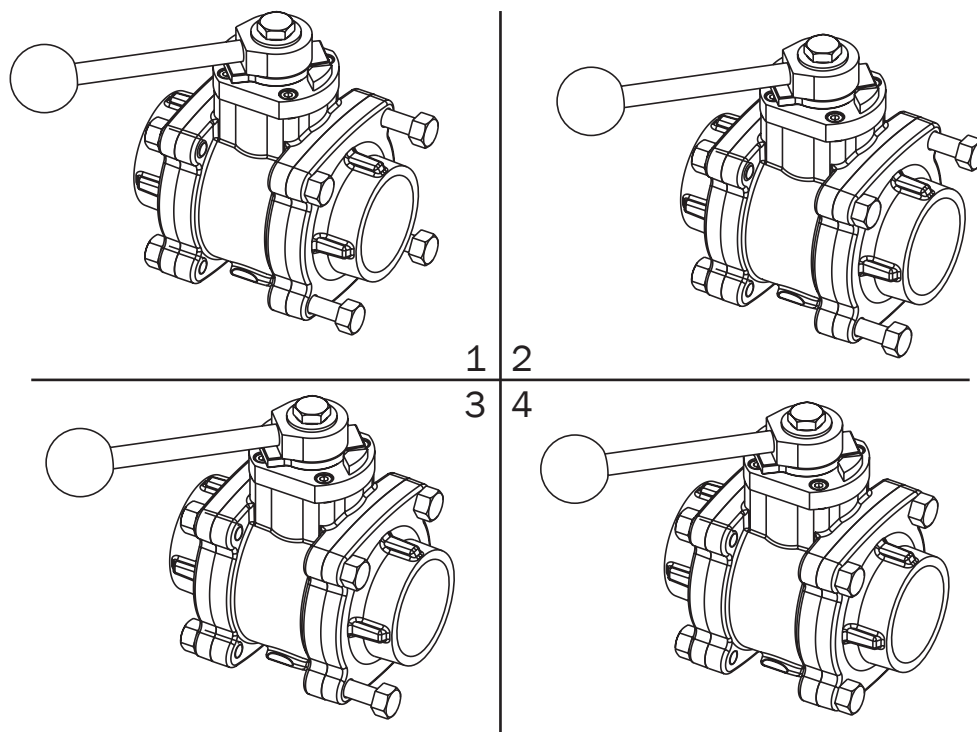

Figure 2
- B) Tighten the four adapter bolts in an X pattern (see Figure 2) by first tightening all bolts to 1/2 their torque specs, and then tightening them to their full torque spec. This will help prevent misalignment. See Table 2 for adapter bolt sizes and torque requirements.